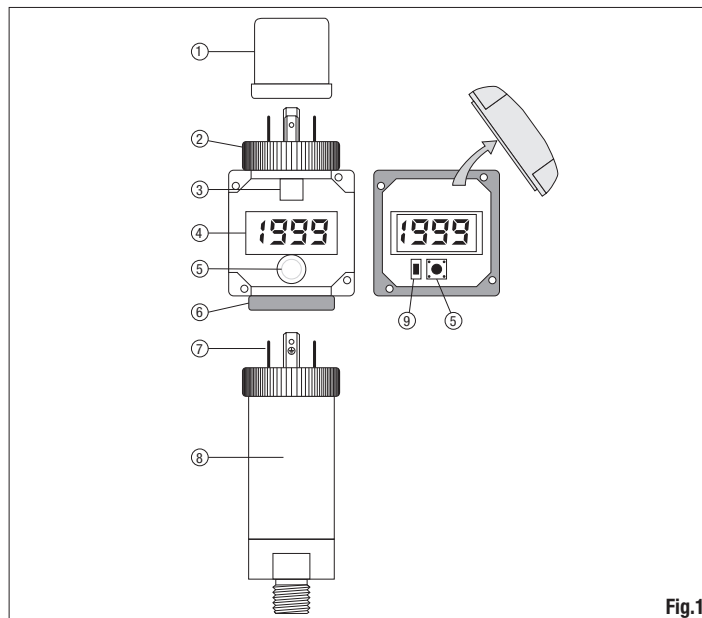

Fig.1
Fig. 1 shows the typical configuration: the display is inserted between the transmitter (8) and the DIN43650 female connector (1).
By pressing the external key (5) (see Fig. 1) it is possible to display, in sequence, the maximum, minimum and average of the captured measurements since the last reset (Record function), and the time passed since the last reset (Timer function).
In order to program the display, the internal key needs to be accessed: unscrew the four screws in the corners of the display face-plate. The internal key (INT) is shown in Fig. 1 by number (9), the external key (EXT) by number (5).